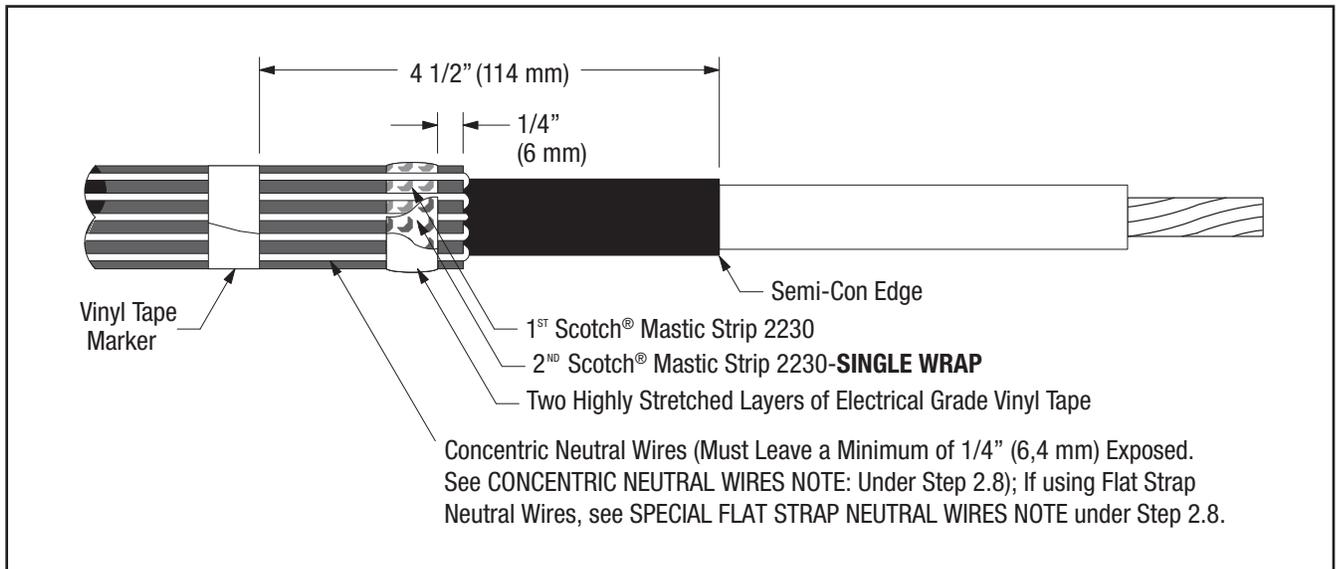

Figure 3
- 2.6 Bend neutral wires back over applied sealing mastic and secure to cable jacket **4 1/2" (114 mm)** from cable semi-con edge using vinyl tape (see NOTE and Figure 3).
- 2.7 Select second Scotch® Mastic Strip 2230 from kit and remove white release liners. Apply a second **SINGLE WRAP** of mastic over the neutral wires and previously applied mastic (Figure 3). Cut off excess.
- 2.8 Compress neutral wires into Scotch® Mastic Strip 2230 by over-wrapping seal strips with two highly stretched layers of electrical grade vinyl tape (Figure 3). **Be sure to cover all exposed mastic AND TO READ THE CONCENTRIC NEUTRAL WIRES NOTE, OR THE SPECIAL FLAT STRAP NEUTRAL WIRES NOTE, BELOW CONCERNING APPLICATION OF THE TWO HIGHLY STRETCHED LAYERS OF ELECTRICAL GRADE VINYL TAPE.**